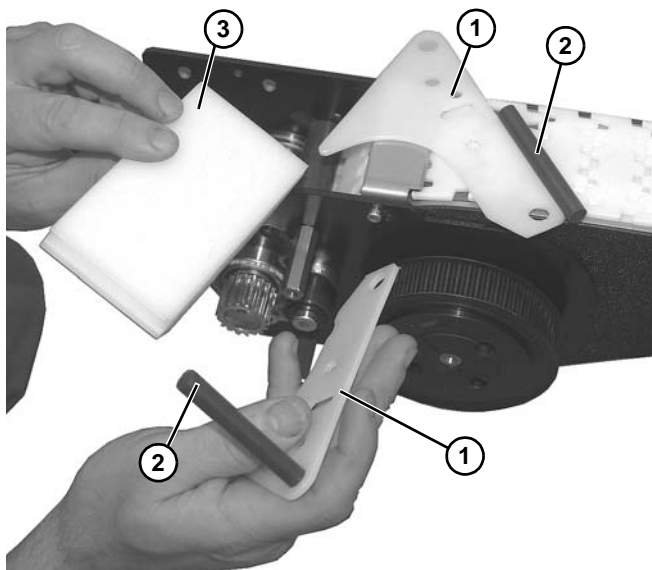

Figure 164
11. Disassemble side guide plates (Figure 164, item 1), wear rods (Figure 164, item 2), and wear bar (Figure 164, item 3). Replace worn components.